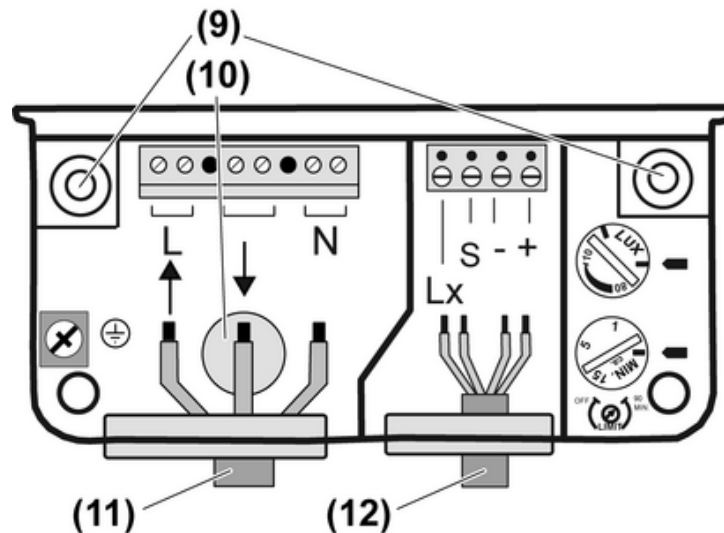

Figure 9: Power pack connection compartment
- For rear mains cable insertion, penetrate the rubber sheath (10) (Figure 9).
- Fasten power pack with two screws (9).
- Insert mains cable (11) and cable to the system sensors (12) into the connection housing and connect them (see "Connecting the power pack").